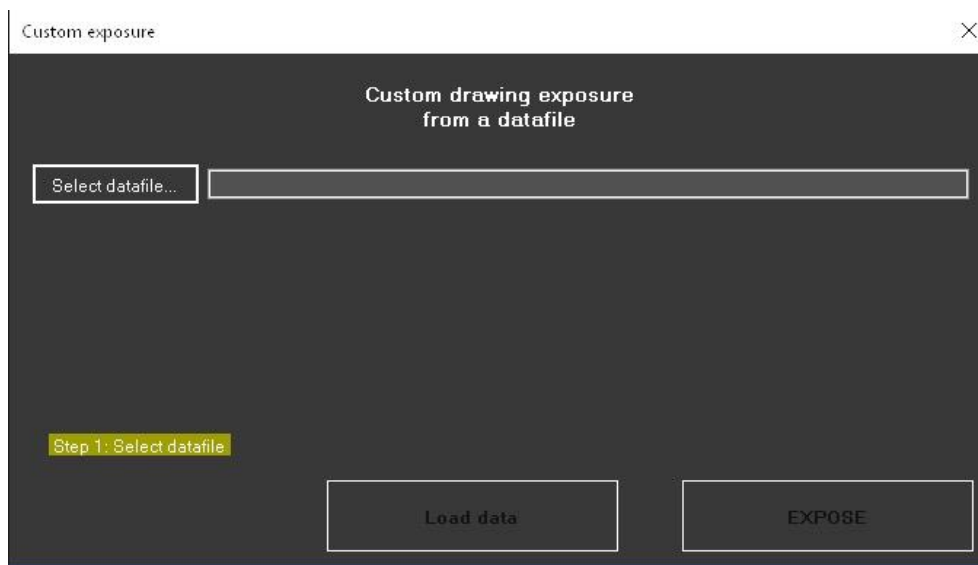

Figure 46 – Custom exposure window at startup
- In the **Custom exposure** window, select a compatible parameter file by clicking on **Select datafile** (Figure 46)